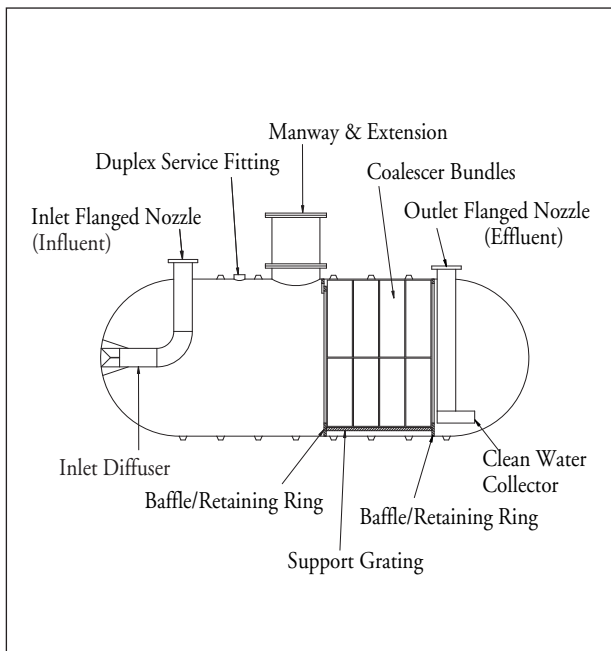
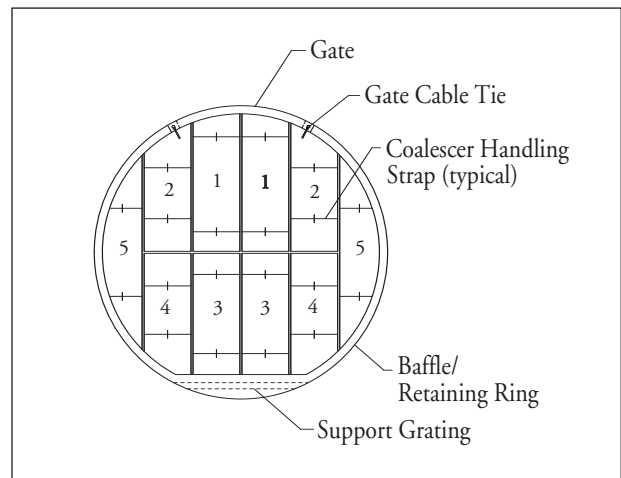

FIGURE 15-3
FIGURE 15-4
15.2.1. To remove a coalescer in a 6-foot-diameter OWS, follow this procedure (See FIGURE 15-3 and FIGURE 15-4.):
15.4.1.6. Replace the support grating, coalescer packs and retaining pieces. (When replacing the coalescer packs in the 6-foot-diameter OWS, use the numbers in FIGURE 15-4 as a guide for replacing same-size packs simultaneously.)